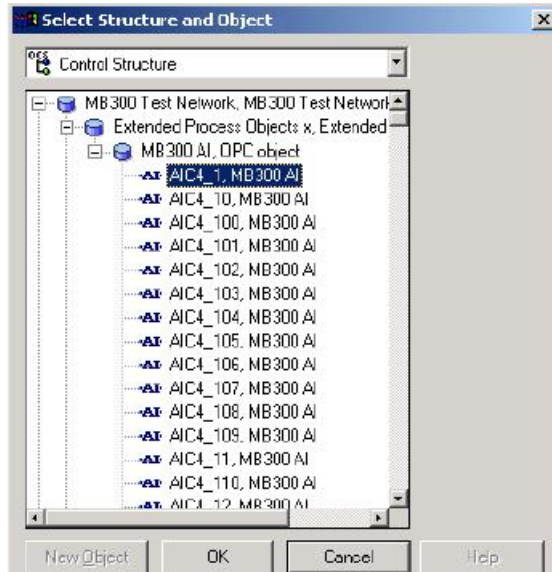

Figure 293. The Dialog where you Browse for the Object
1. Browse for the object, or write the full path for the object in the **Object Path** area. If you choose to browse you will get a new dialog box according to Figure 293.